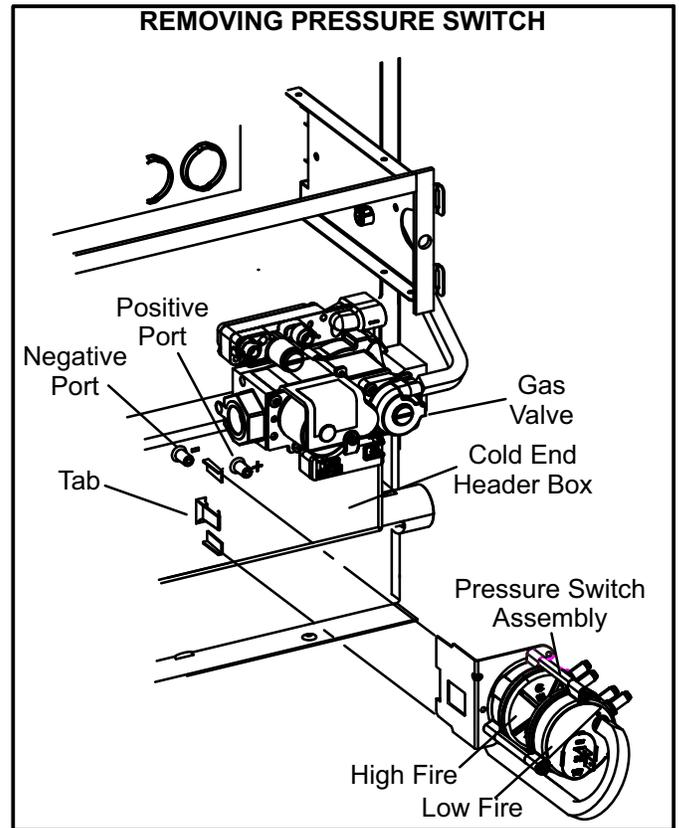

FIGURE 2
6. -Remove and discard the existing pressure switch by carefully pressing the tab which secures the switch assembly to the cold end header box. See figure 2. *Do not install replacement pressure switch at this time.*